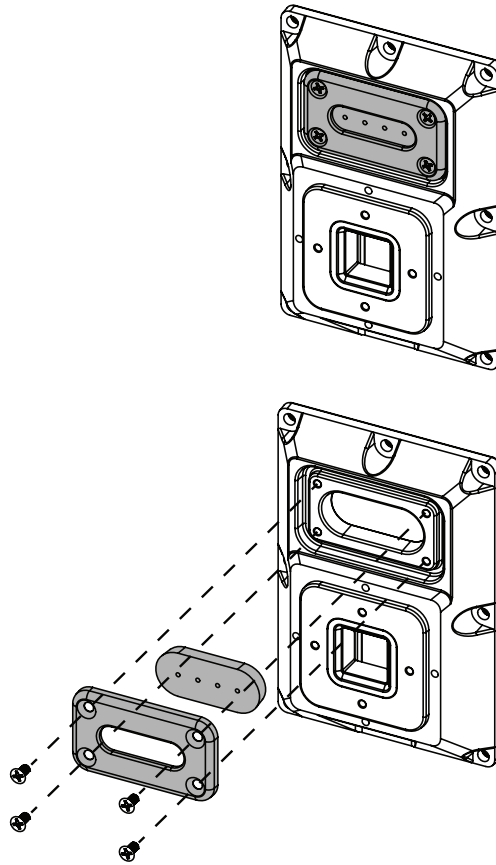

Figure 2
Using a Phillips screwdriver, remove the four (4) screws covering the grommet plate to remove both the grommet plate and rubber grommet. (Figure 2)